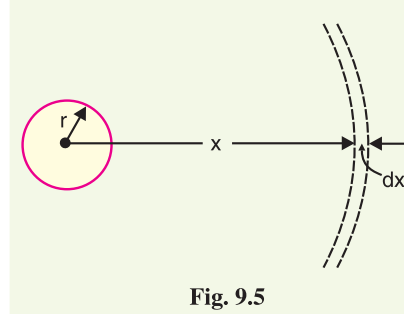

Fig. 9.5
**(ii) Flux linkages due to external flux.** Now let us calculate the flux linkages of the conductor due to external flux. The external flux extends from the surface of the conductor to infinity. Referring to Fig. 9.5, the field intensity at a distance  $x$  metres (from centre) outside the conductor is given by ;